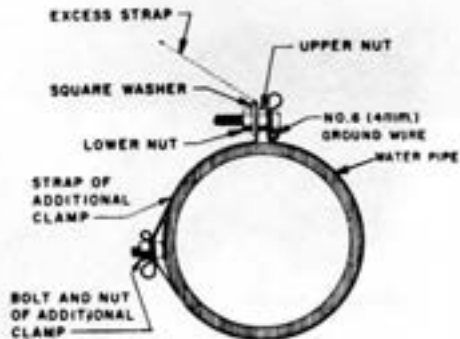
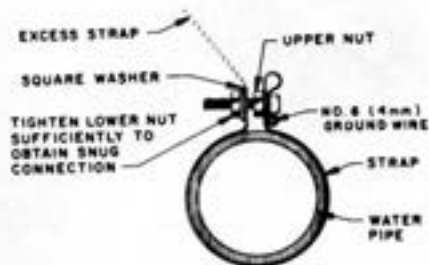

Fig. 62—Attaching L Ground Clamp to Pipes Larger Than 3 Inches
Fig. 63—Attaching L Ground Clamp to 3-Inch and Smaller Pipe
(5) Bend the strap around the pipe and engage the bolt with the farthest possible hole from the end of the strap. (On pipes larger than 3 inches, fasten two straps together [Fig. 62].)
(6) Mount the square washer and lower nut on the bolt of the initial clamp and tighten nut.
(7) Break off excess strap at the square washer and cut off excess length of bolt if it interferes with the installation of the clamp or projects in a hazardous manner (Fig. 63). (See Fig. 64 for typical installations of L ground clamp.)